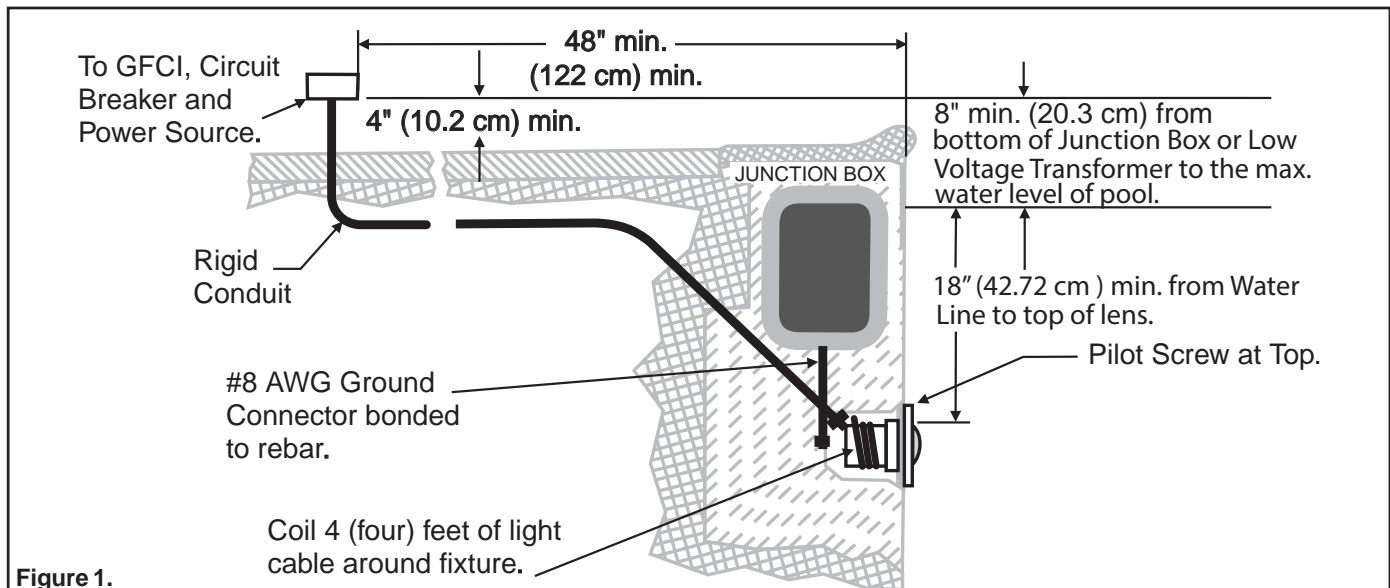

Figure 1.
### A. THE FOLLOWING PREPARATORY STEPS MUST BE COMPLETED BY THE CERTIFIED ELECTRICIAN BEFORE LIGHT IS INSTALLED - SEE FIGURE 1.
- a. 120 VAC pool/spa lights must be connected to a Ground Fault Circuit Interrupter (GFCI), with an appropriately rated circuit breaker. See Figure 1. For Canada, 120 and 12 VAC lights must have a Ground Fault Circuit Interrupter (GFCI), and have an appropriately rated circuit breaker.
- b. The Junction Box (or 12 volt light models, the low voltage transformer) must be located at least 8 in (20.32 cm) above the maximum water level and at least 4 in (10.2 cm) above the ground level or pool deck which ever provides the greater elevation. The junction box shall be no less than 4 ft (1.22 m) from the inside wall of the pool, unless separated from the pool by a solid fence, wall or other permanent barrier. See Figure 1. The Junction Box should also be located at least 48 in (122 cm) minimum (3 m (10 ft.) Canada) from the edge of the pool, see Figure 1.
- d. Bond the niche-fixture housing to all other metallic items within 5 ft (1.53 m) of the pool, using a No. 8 AWG bond wire. The Bond connection is located at the rear of the niche, see Figure 1.
- e. The wet niche is properly installed so the top edge of the underwater light's lens is at least 18 in (45.7 cm) - (CANADA: 600 mm max to the centerline of the lens), below the surface of the water in the pool, see Figure 1. Also, the face ring PILOT SCREW must be at the 12 o'clock position.
- f. If non-metallic conduit is used, a No. 8 AWG bonding/grounding wire must be installed through the conduit from the Junction Box to the bonding/grounding lug inside the niche. Seal the wire/lug connection with a listed sealant to protect the connection from possible pool water corrosion. See Figure 1. Note: Use only Pentair wet niches to insure proper bonding and grounding connections.
- A. L'électricien devra procéder aux préparatifs suivants avant d'installer l'appareil d'éclairage (cf. figure 1).
- b. La boîte de dérivation doit être située à au moins 20,3 cm (8 pouces) au-dessus du niveau de l'eau et 10 cm (4 pouces) au-dessus du niveau du sol. Elle doit être en outre située à au moins 1,22 m (48 pouces) du bord de la piscine (cf. figure 1).